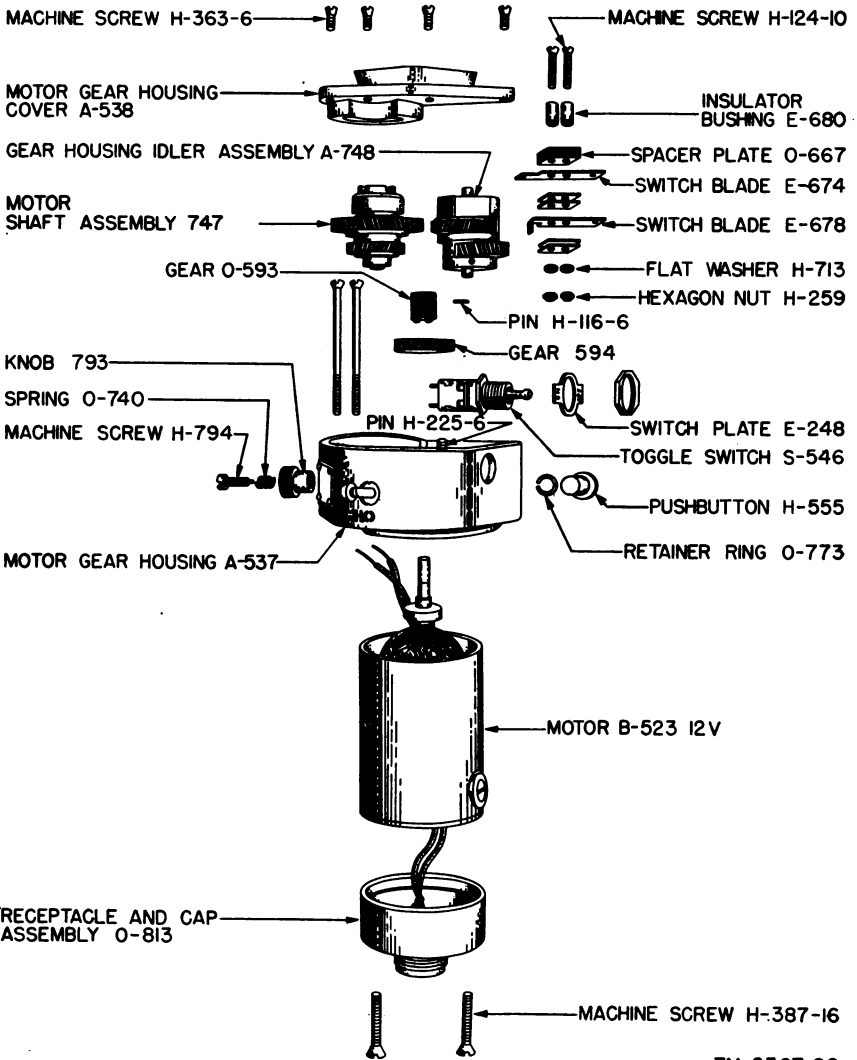

Figure 27. Electric motor drive unit, exploded view.
a. **ELECTRIC MOTOR** (fig. 27). Remove four machine screws H363-6 which hold motor gear housing cover A538 in place and remove cover from the assembly. This exposes the speed reduction gears. Lift out idler gear assembly A748 and motor shaft assembly 747. Gear 593 is attached to the armature shaft with pin H116-6. The HI-LO shift lever knob 793 is attached with screw H794. Do not lose spring O-740 when screw H794 is removed.